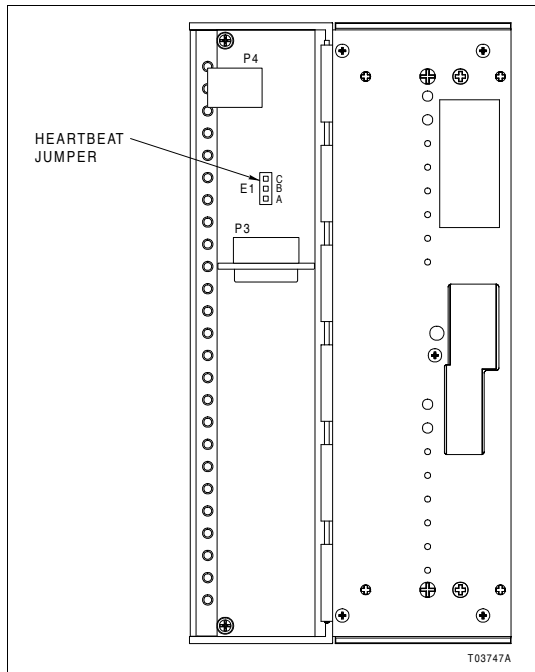

Figure PR5-1. SIM-100 Base
- 1. Verify the heartbeat jumper E1 on the SIM-100 base is set as shown in Table PR5-1; refer to Figure PR5-1 for the jumper location. This jumper only affects the RJ-45 port operation.